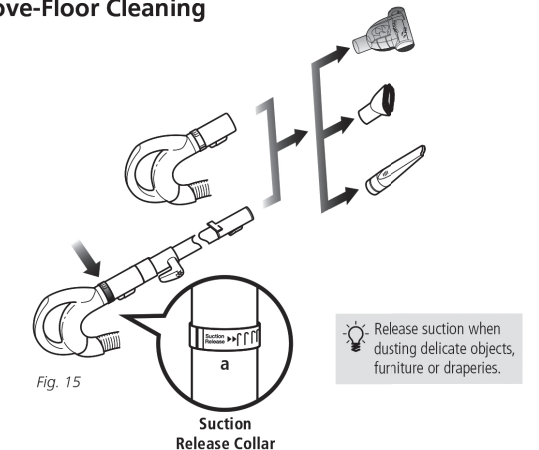

Fig. 15
- Attach desired accessory onto the end of either the extension wand or the handle. (Fig. 15)
- Adjust the amount of suction with the suction release on the handle. Open the valve (a) by rotating the collar 90° counterclockwise for low suction when doing light jobs such as drapes or fine surfaces. Close the valve (a) by rotating the collar clockwise 90° for high suction and when using the hand held pet power brush. (Fig. 15)